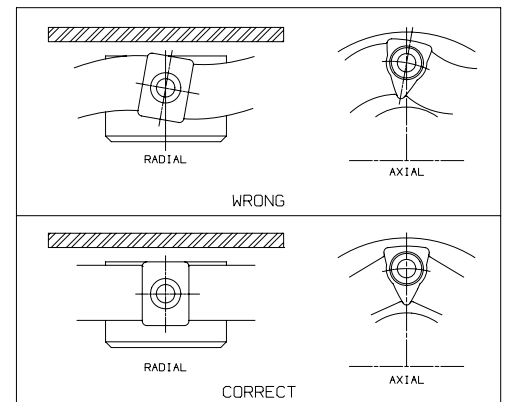
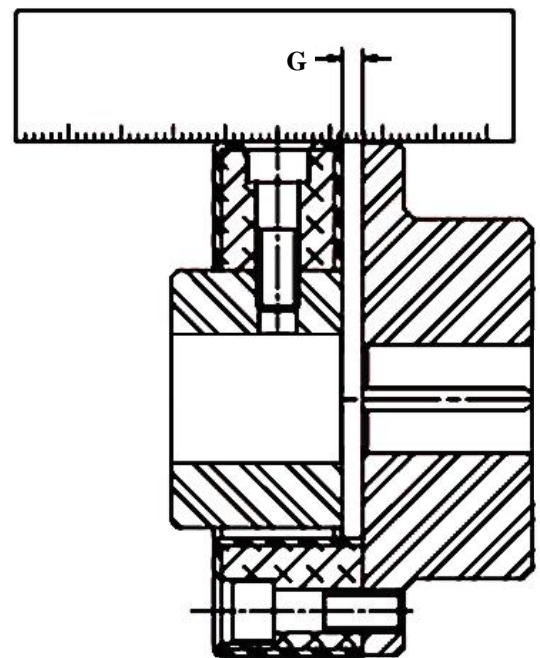

Figure 3
Figure 4
Since most adapter plate mounting holes will be threaded or have nuts welded to the back side of the plate, install the adapter on the flywheel. Then install the element with the axial cap screws or S-bolts finger tight only. It is usually a good idea to place a small amount of a non hydrocarbon lubricant, such as petroleum jelly, under the head of the cap screws to prevent the inserts from twisting (See figure 3) when its time to tighten these screws to their specified torque. Avoid using hydrocarbon based grease or oil around the LF elements.
3. Attach the rubber element to the flange hub, flange adapter plate, or flywheel using the axial screws as shown in Figure 3. Only tighten these screws finger tight at this time. If this is the S-Style element, you will need to install the S-Pins on the flywheel or flywheel adapter without the element in place. The S-Pins can be tightened to the specified torque defined in Table 1.
5. Tighten the axial screws first. Make sure there is some non hydrocarbon lubricant under the head of the screw before inserting the screw through the element. See Table 1 for the proper torque values to use when tightening these screws. While tightening these screws, watch the inserts to ensure the inserts are not twisting or trying to rotate. See Figure 3, right side.
Note: Ensure the inserts in the element are not twisted as shown in Figure 3, top left. If the insert is twisted, it will not seat properly on the cylindrical hub and the bolts will come loose causing premature failure.
- b. When tightening the screws make sure the aluminum inserts or rubber arms are not twisted (see figure 4). To reduce the friction between the screw head and aluminum insert, place a drop of a non-hydrocarbon lubricant under the bolt heads prior to tightening. As stated in previous steps, a petroleum jelly should work. If the inserts are twisted (see figure 3), the radial inserts may not seat properly on the cylindrical hub or spacer shaft. If this happens the curved surface of the hub will not seat properly on the hub and will not carry the load with the full surface of the insert. When this happens, all the radial screws can loosen and the coupling will fail.
d. S-Style elements can be installed backwards very easily. Care should be taken to ensure the standoffs are facing the flanged hub, flywheel adapter, or flywheel. The Lovejoy logo should be clearly visible facing outward. There should be gap between the element and flange as shown in figure 4. The dimension for this gap is defined in table 3.